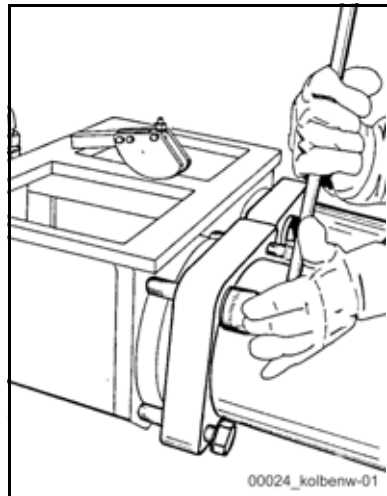

Fig. 350
- Tighten any loose fastening screws crosswise in three steps using a torque wrench (**Fig. 350**).